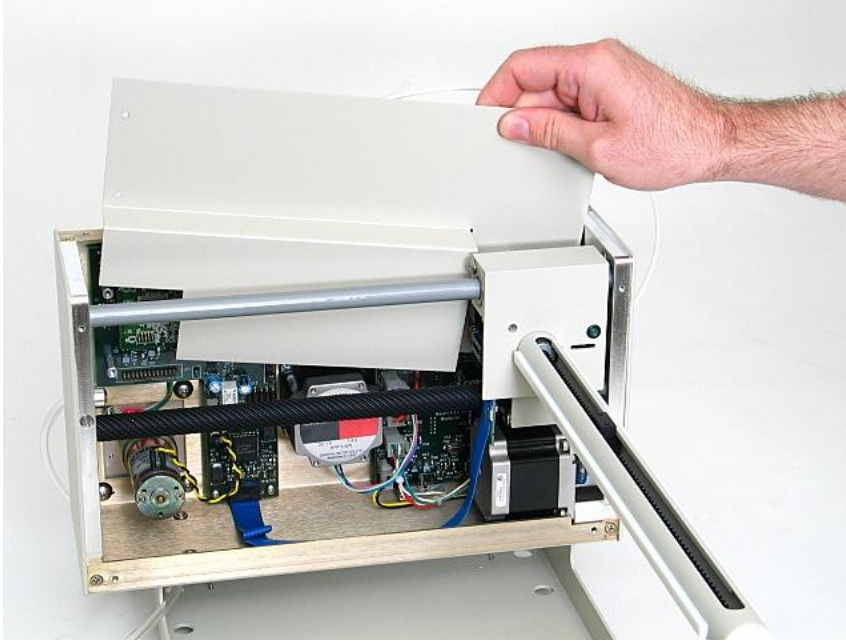

Figure 1-10. Removal of inner shield.
9. The inner shield can be removed by lifting it up while pulling forward (Figure 1-10).